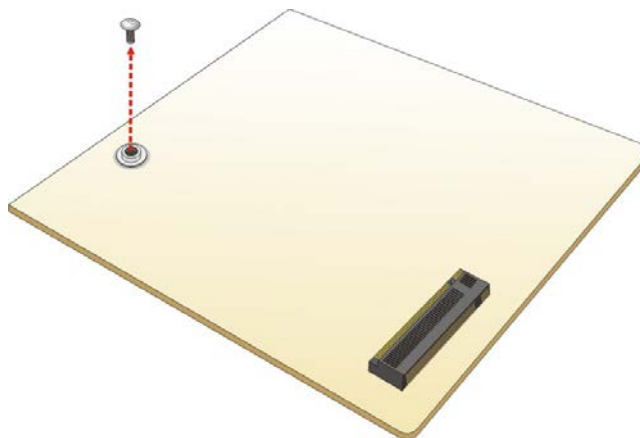

Figure 3-8: Removing the M.2 Module Retention Screw
Step 3: Remove the on-board retention screw as shown in Figure 3-8.